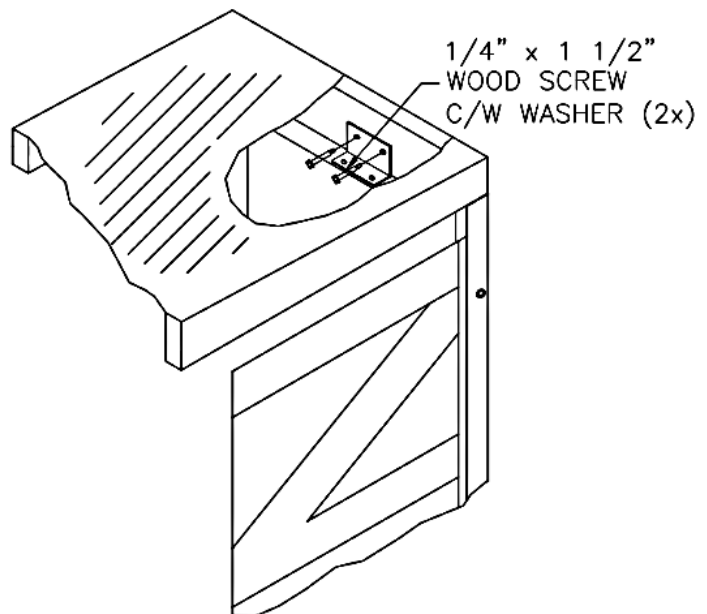

FIG. 8B
- c. Attach Head Frame to Vertical Frames (Figure 8b).